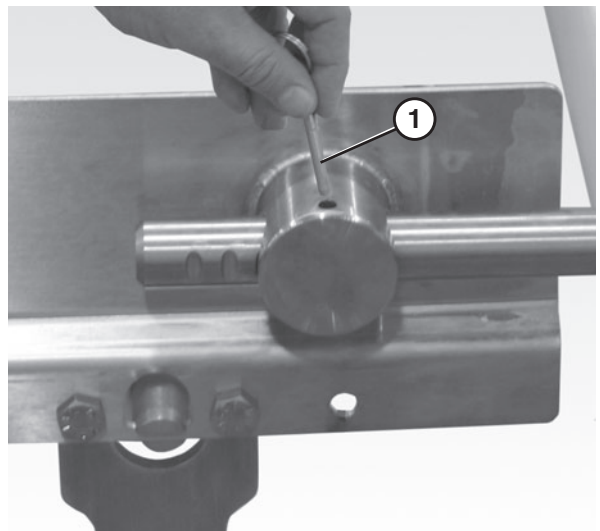

Figure 64
1. Remove the pull pins (**Figure 64, item 1**).